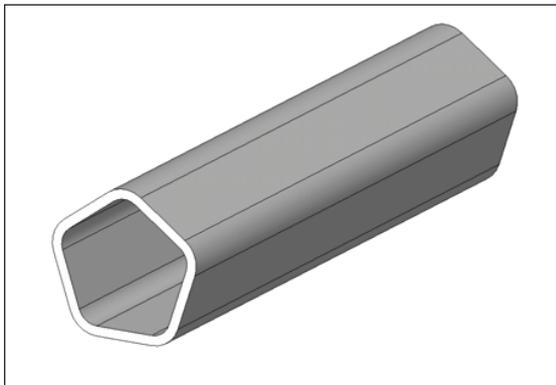

Fig. 5-16: Oxygen sensor removal tool
- Oxygen sensor removal tool (see Fig. 5-16 on p. 47)
To remove and replace the oxygen sensor, you will need the sensor removal tool provided (see Fig. 5-16 on p. 47).
3. Using the sensor removal tool (see Fig. 5-16 on p. 47), unscrew the oxygen sensor by turning it counter-clockwise. Because the oxygen sensor contains lead, be sure to dispose of it according to local regulations.